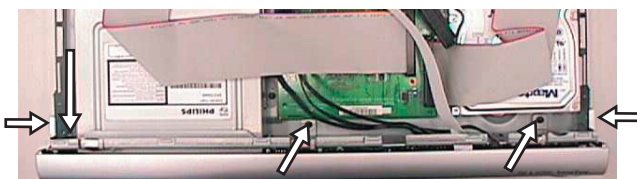

Figure 4-3
- 4) Loosen 3 screws and 2 catches as shown in Figure 4-3 to separate the Front panel assembly from the Frame assembly 920.